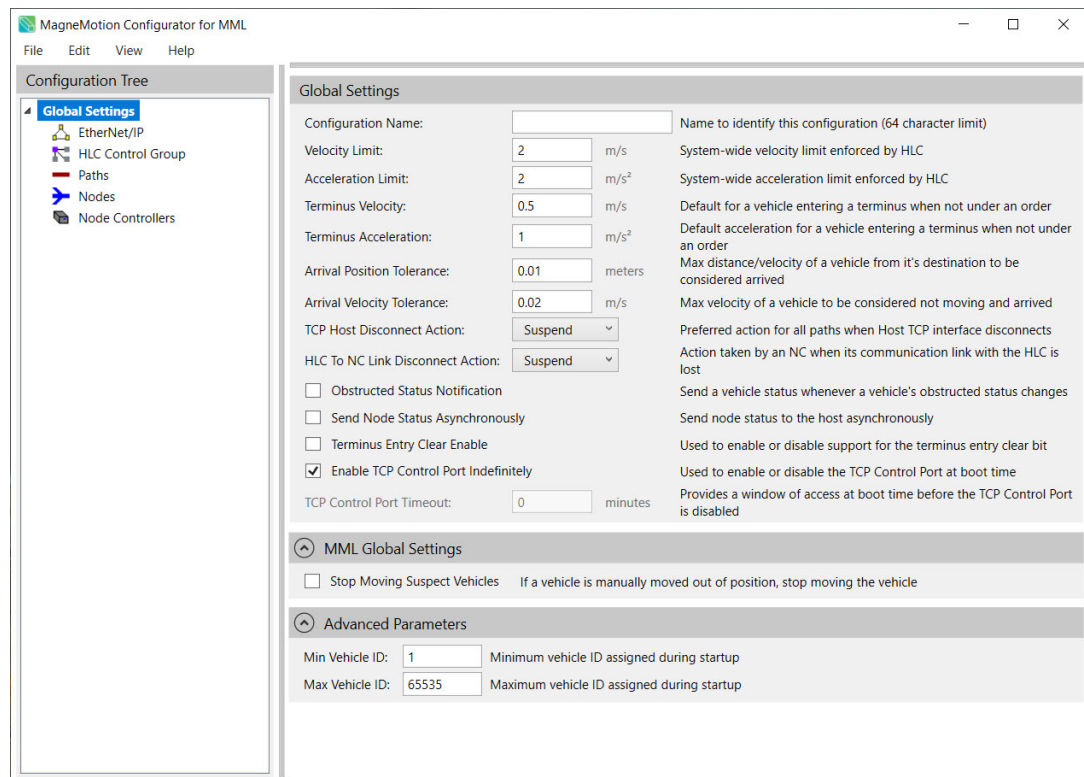
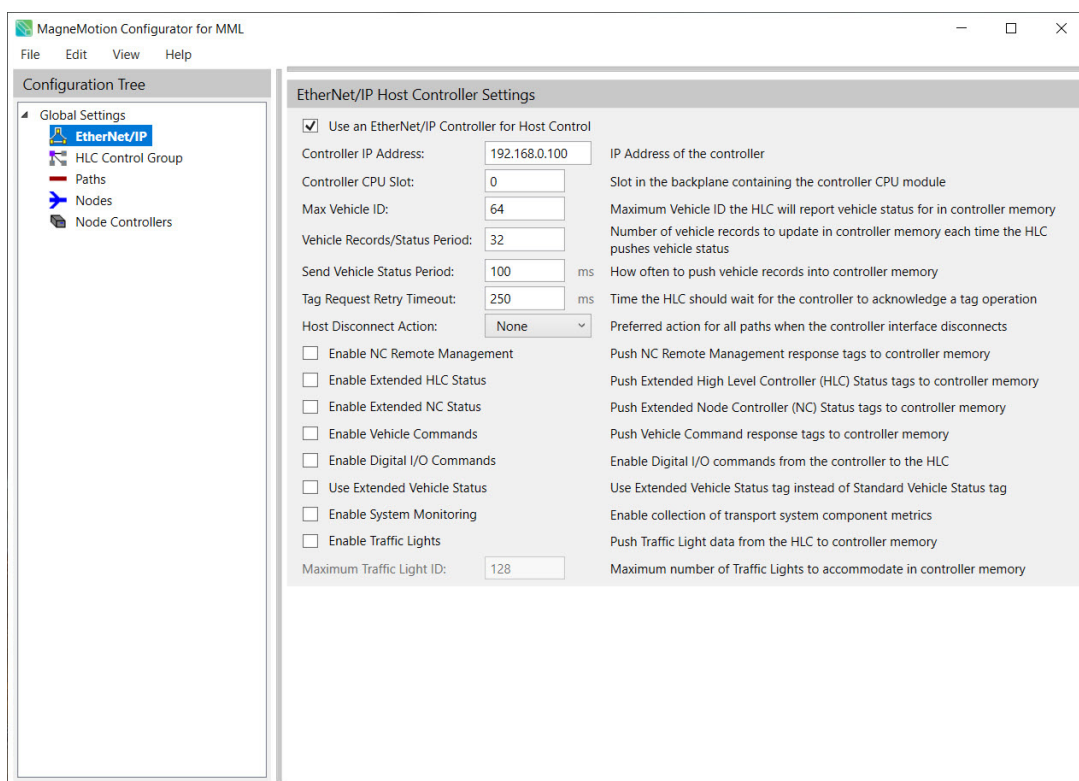

Figure 4-5: Global Settings Page with Advanced Parameters (MM Lite™)
Figure 4-8: EtherNet/IP Host Controller Settings for MagneMover Lite
*The **Global Settings** page, see Figure 4-5...Figure 4-8, is displayed in the Configuration Settings Pane.*
*The **Global Settings** page that is displayed in the Configuration Settings Pane is updated with the advanced parameters, see Figure 4-5...Figure 4-8.*
*The **EtherNet/IP Settings** page, see Figure 4-8, is displayed in the Configuration Settings Pane.*